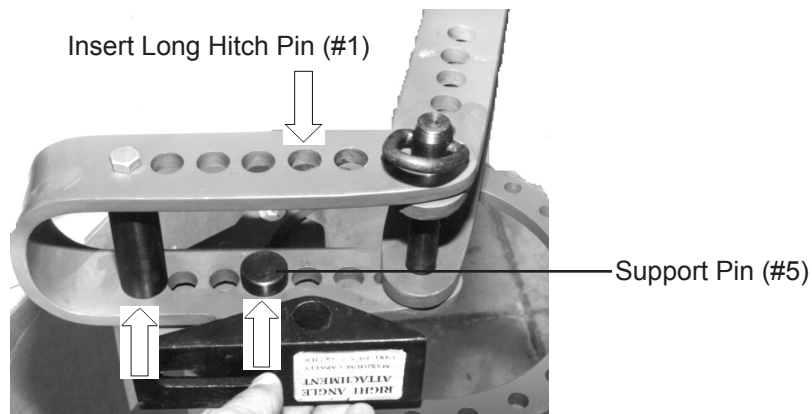

Figure 6-Right Angle Bending Attachment
- Step 1) Install the Support Pin (#5) under the Right Angle attachment. This will raise it up so that it sits above the Ring Assembly/Die Receiver-see Figure 6.
- Step 2) Set the Support Pin into the 3rd hole on the Ring Assembly/Die Receiver (#10). Line up the hole in the top of the Right Angle Bending Attachment (#7) with hole #2 in the Ring Assembly Die Receiver (#10)-see Figure 6. Insert the Long Hitch Pin (#1) through the second hole in the Ring Assembly/Die Receiver(#10) to secure the Right Angle Bending Attachment (#7) in place.